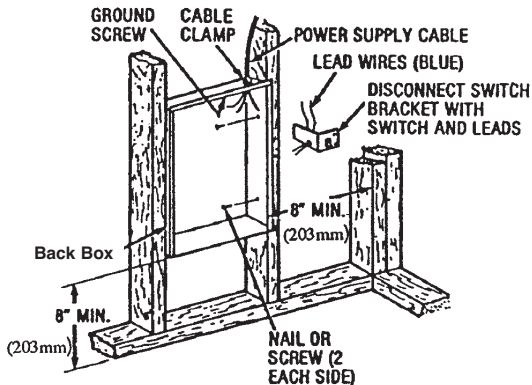

Fig. 1: Locating Back Box in New Construction
### 1. Mounting Back Box (See Figure 1).
- c. Secure the back box in position with wood screws or nails as shown in Figure 1.
### 2. Power Supply Wiring (See Figure 1)